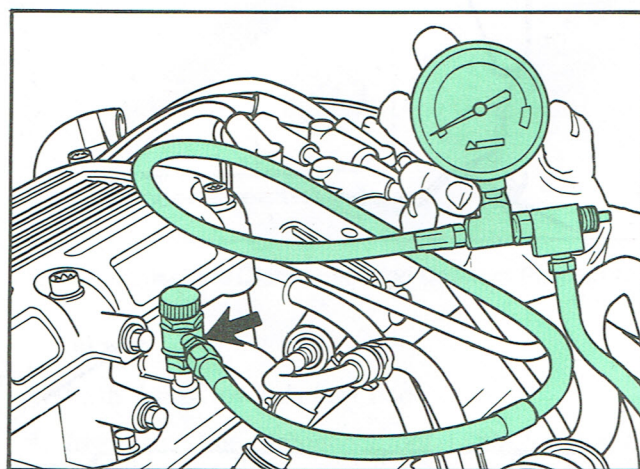

Figure 10, Schraeder Valve
- The fuel rail is the same as that used for the 2.9L Ranger/Bronco II. A Schraeder Valve is available for fuel pressure testing (Fig. 10).